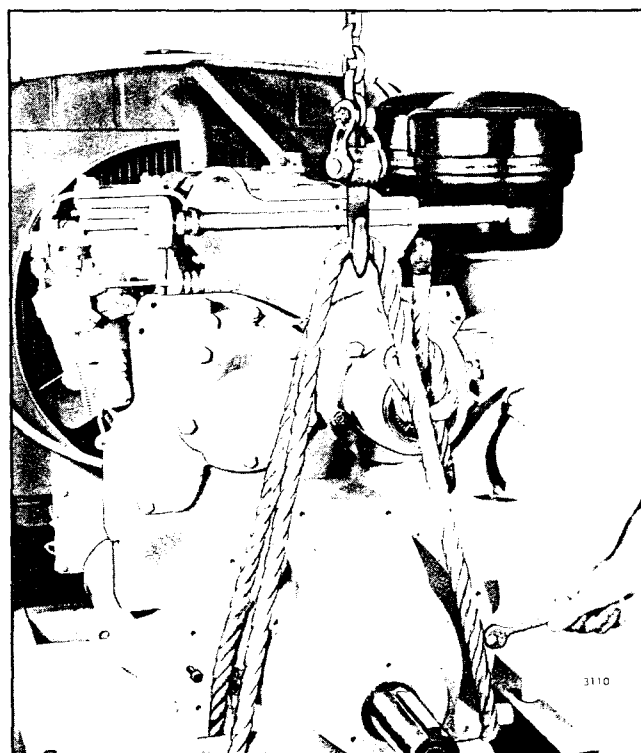

Fig. 7 - Removing Power Take-Off
3. Support the weight of the power take-off assembly with a rope sling and chain hoist as shown in Fig. 7. Engage the clutch with the hand lever to hold the clutch facings in place.